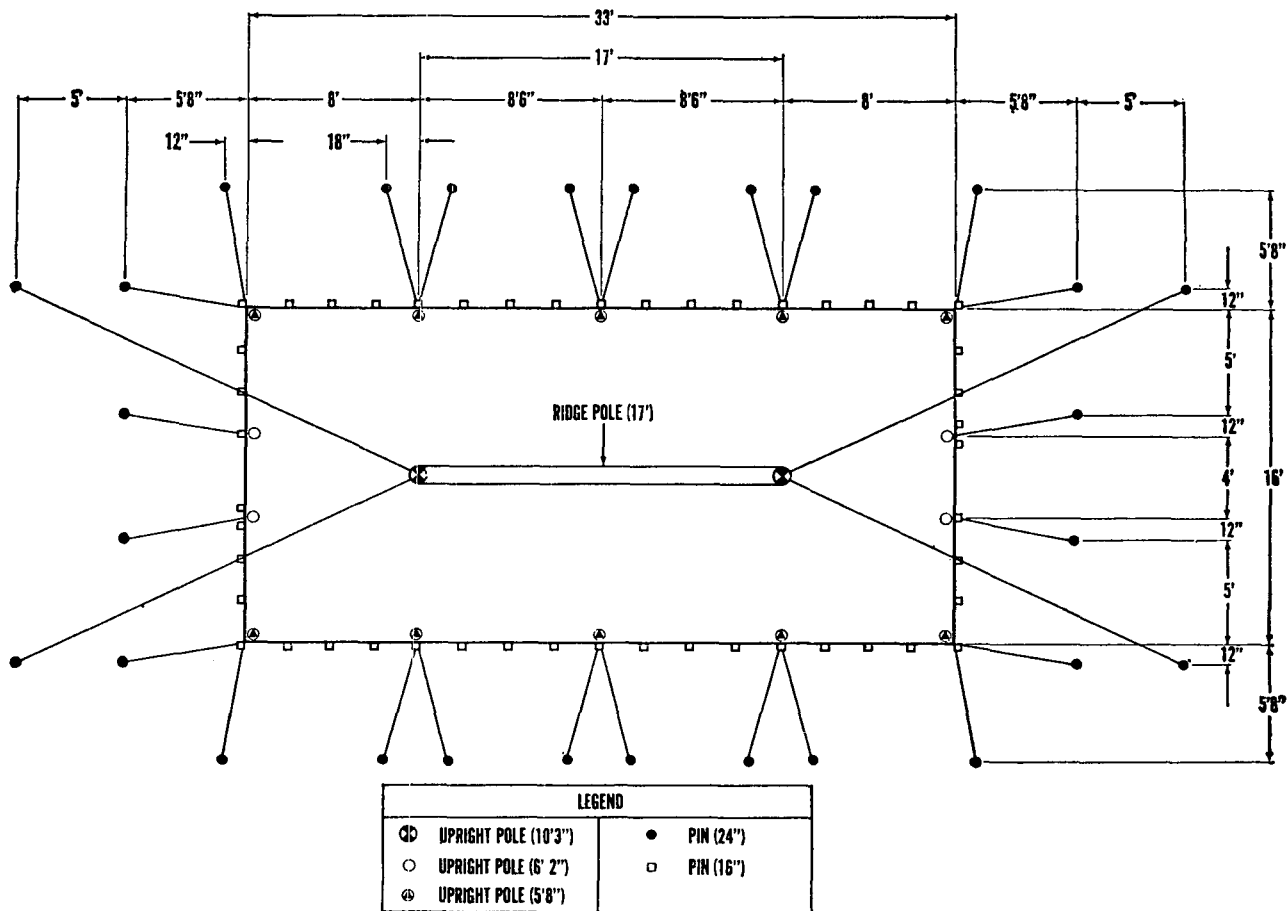

Figure 26. Ground plan of tent, general purpose, medium.
c. Ground Plan. Before pitching the tent, study the ground plan carefully (fig. 26).